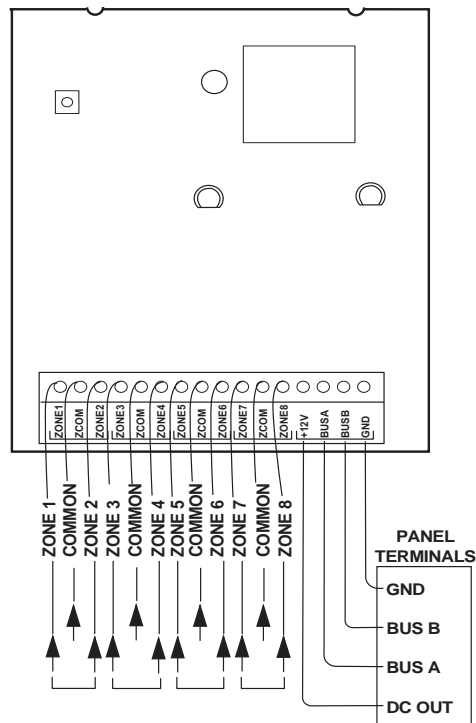

Figure 6. Wiring HIM to the Panel
2. Wire the HIM to the panel as shown in Figure 6 and Table 2. For specific SuperBus 2000 wiring details, see the panel installation instructions.